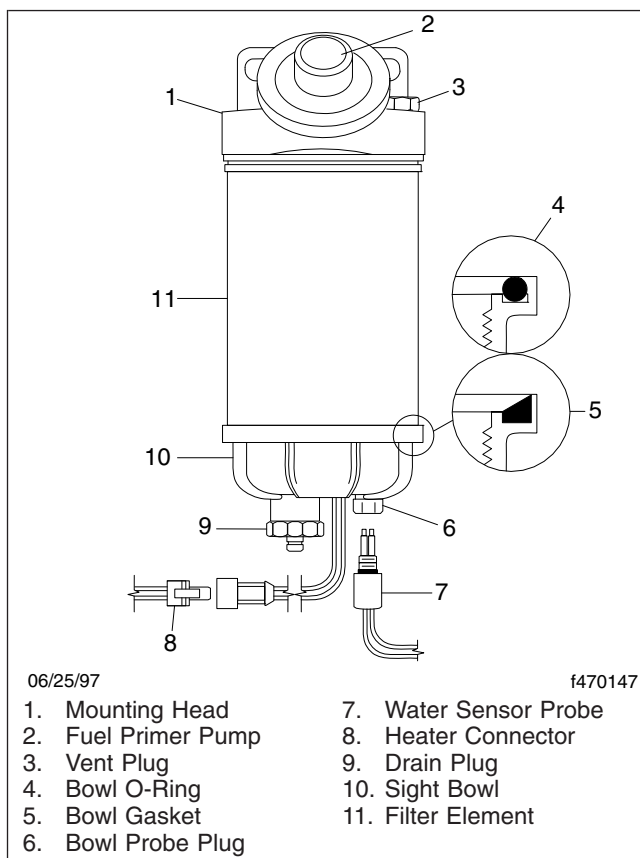

Fig. 1, Alliance Fuel/Water Separator
- 8.1 Loosen the vent plug. Then operate the primer pump until the fuel purges at the vent plug. See Fig. 1.